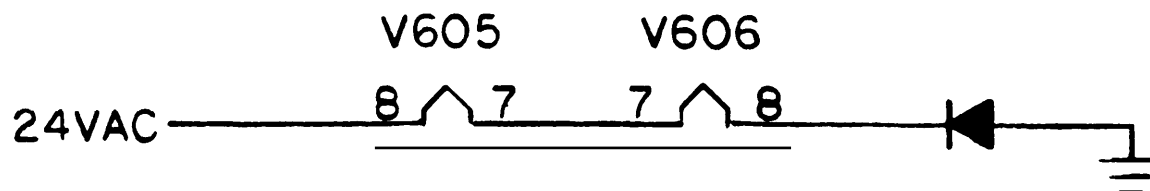

FIG. 1
The original filament circuit of the two (2) regulator tubes V605 and V606 is wired in parallel. In this modification, the filament circuit will be connected in series as indicated in Fig. 1.